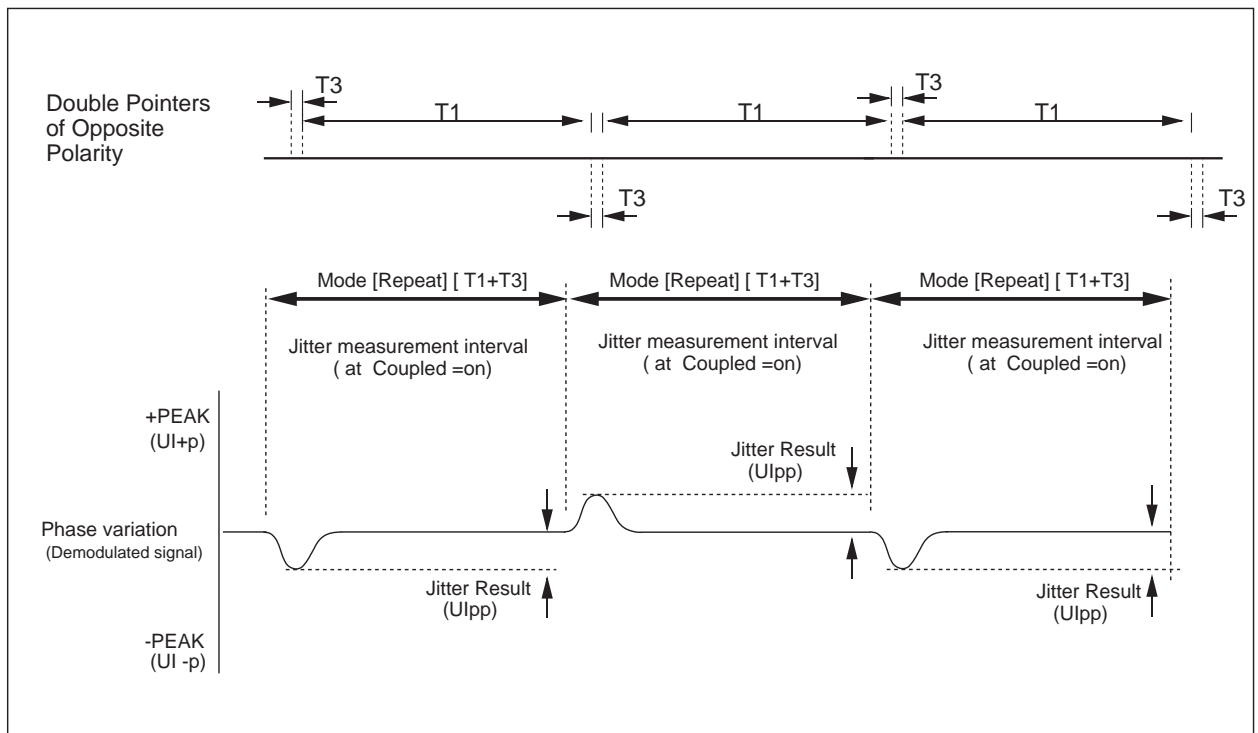

Figure 2-26 Measurement Timing
1. The phase relation between the pointer action cycle and the jitter measurement cycle when coupled measurement is on is as shown in Figure 2-26.
2. The jitter on the tributary signal arising from the pointer action differs in the phase change direction depending on the positive justification and the negative justification as shown in Figure 2-26. The jitter measurement instrument must correctly measure these phase changes.